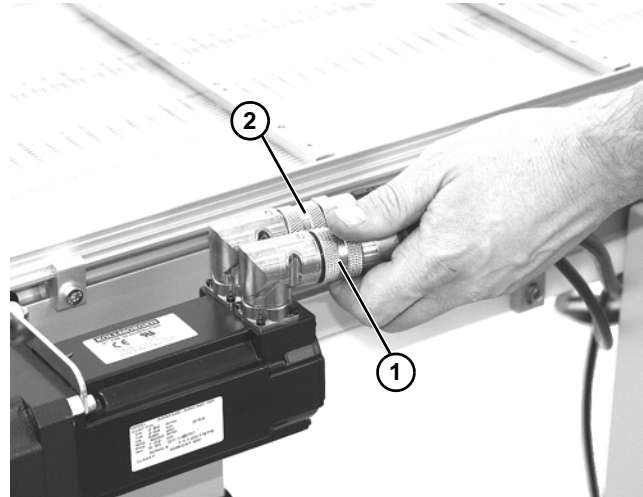

Figure 58
- Disconnect motor power connector (**Figure 58, item 1**) and feedback connector (**Figure 58, item 2**).